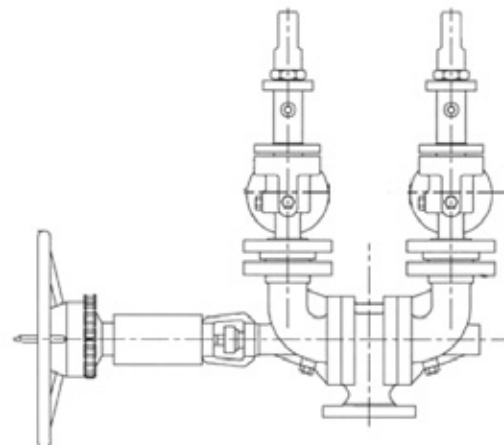

Fig. 3
8. Install the two safety relief valves. (See Fig. 3)